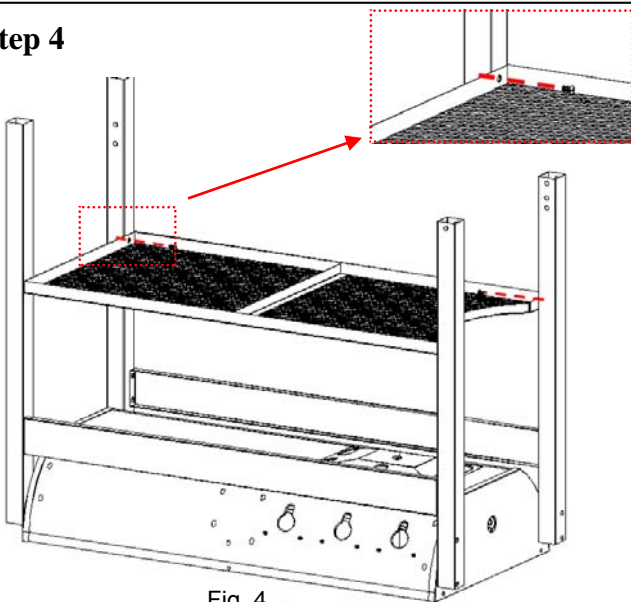

Fig. 4 -
*Locate:* Bottom Shelf, (4) M6x12 bolts
*Procedure:* Attach the Bottom Shelf to four Legs using (4) M6x12 bolts as shown as Fig. 4. Do not fully tighten the bolts at this time.